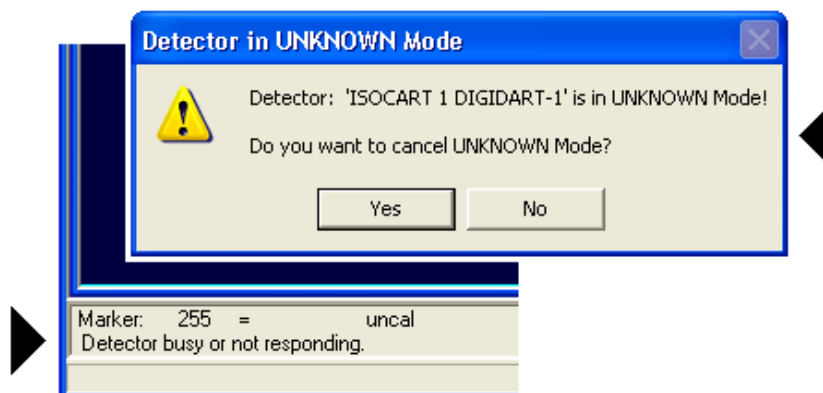

Figure 1. USB-Connected Detector in Unknown Mode.
If your MCB has a USB interface (e.g., digiDART, DSPEC Pro[®]) and the computer-to-MCB connection is lost while running either the Supervisor or Operator program, the software will immediately close the window for the missing MCB, post the **Detector busy or not responding** message on the status bar at the bottom of the screen, and open a buffer window (Fig. 1). To reopen communication with the MCB in the Operator program:
- 3) The UNKNOWN Mode dialog will open, asking if you wish to cancel the unknown mode (see Fig. 1).